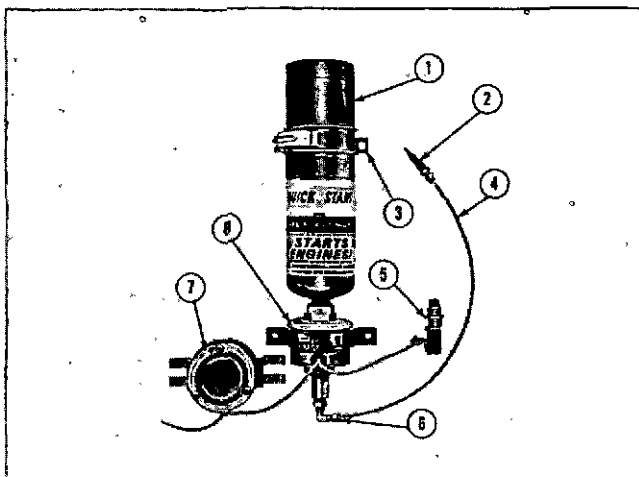

Fig. 10-2-4, V11012. Electric valve with fuel cylinder mounted
Electric valves meter and inject 1.5cc of starting fuel at each actuation, these are available as Part No's. 187208 (12 volt) and 187209 (24 volt). Fig. 10-2-4.
The electrically operated valve, Part No. 187208 or 187209, illustrated in Fig. 10-2-4 includes valve body (8), 90 deg. elbow (6), clamp (3), cap (not shown), push button switch (5), thermostat (7) and Nylon tube (4). The thermostat (7) is mounted on the engine exhaust manifold and cuts out the valve by sensing manifold heat when the engine is running. See parts catalog for fuel cylinder (1) and fuel atomizer fittings (2). These fittings must be ordered separately, as required.